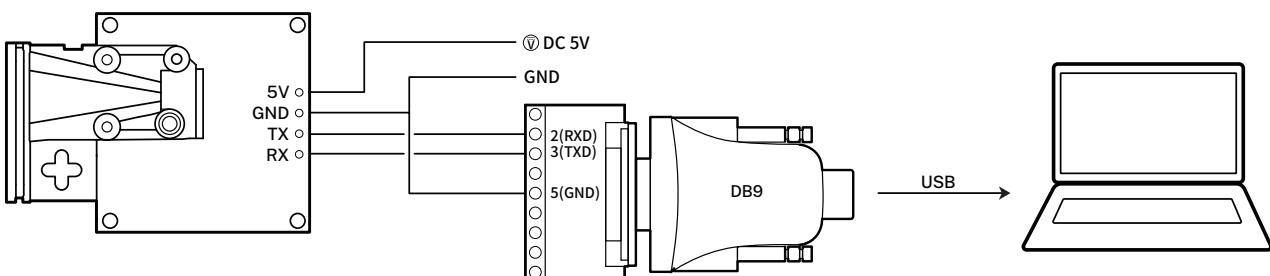

Figure 5. L4 to DB9 wiring diagram
1. As shown in Figure 5, externally supply DC5V to the L4 module. Ensure that the DB9 adapter cable shares a common ground with the module.